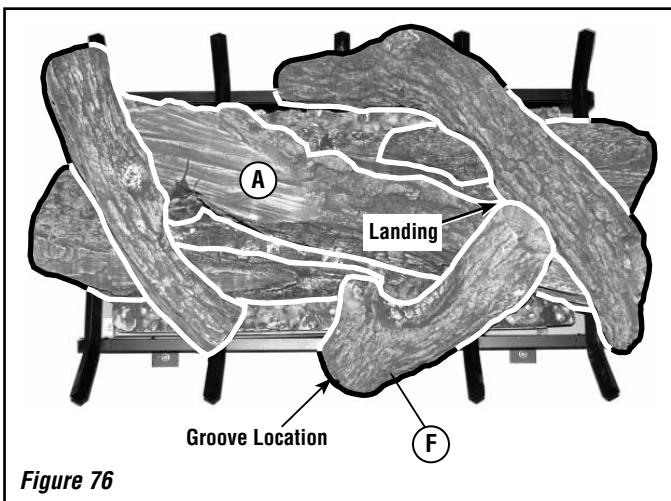

Figure 76
11. See **Figure 76**. Place groove on underside of **Top Front Log F** over the grate finger. Rest the other end of the log on the **Landing** on **Center Log A**.